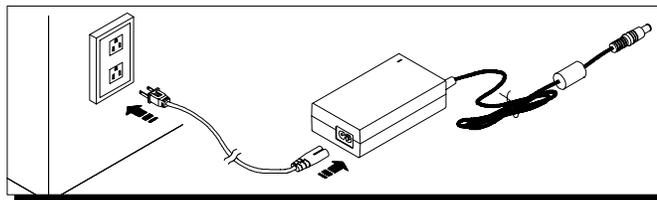

Figure 5-7: The AC Adapter Connection
2. Connect the power cable to the port on the AC Adapter module. Please refer to *Figure 5-7*.